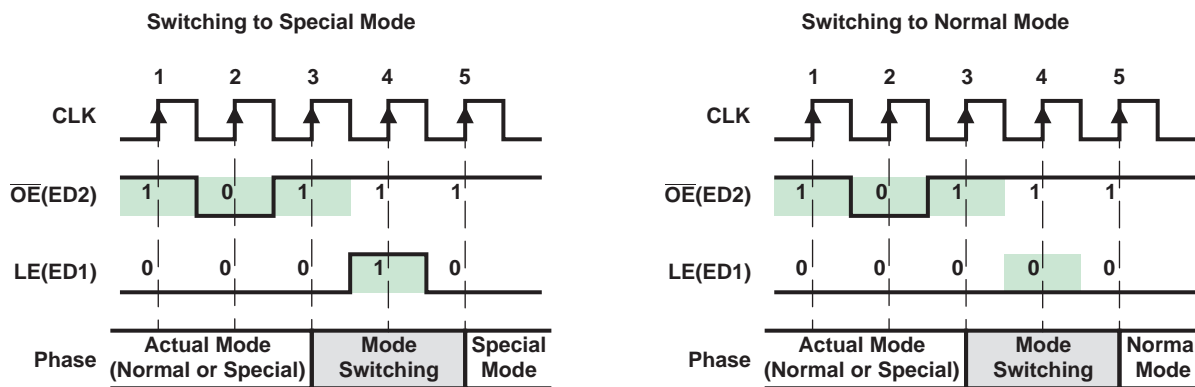

Figure 15. Mode Switching
To switch between its two modes, TLC5916/TLC5917 monitors the signal  $\overline{OE}(ED2)$ . When an one-clock-wide pulse of  $\overline{OE}(ED2)$  appears, TLC5916/TLC5917 enters the two-clock-period transition phase, the Mode Switching phase. After power on, the default operation mode is the Normal Mode (see Figure 15).
As shown in Figure 15, once a one-clock-wide short pulse (101) of  $\overline{OE}(ED2)$  appears, TLC5916/TLC5917 enters the Mode Switching phase. At the fourth rising edge of CLK, if LE(ED1) is sampled as voltage high, TLC5916/TLC5917 switches to Special Mode; otherwise, it switches to Normal Mode. The signal LE(ED1) between the third and the fifth rising edges of CLK cannot latch any data. Its level is used only to determine into which mode to switch. However, the short pulse of  $\overline{OE}(ED2)$  can still enable the output ports. During mode switching, the serial data can still be transferred through SDI and shifted out from SDO.